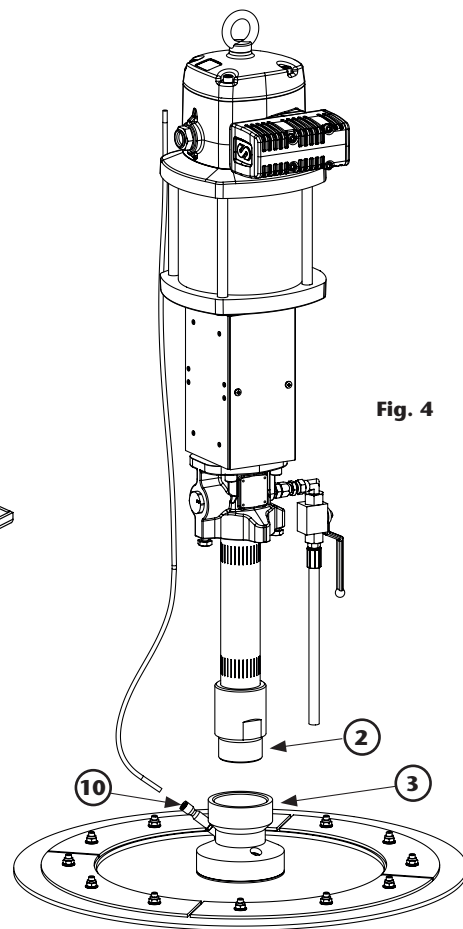
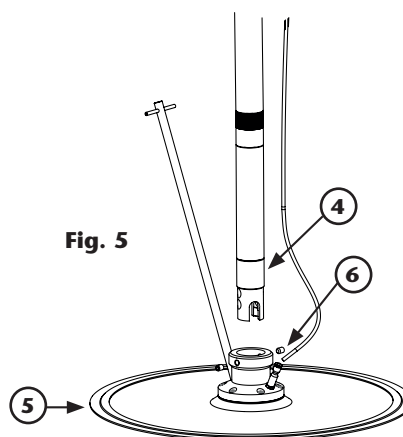
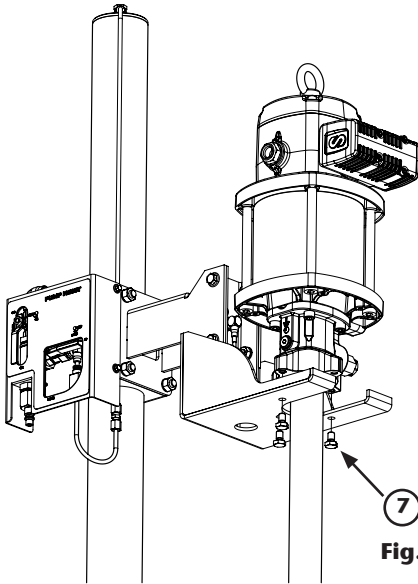
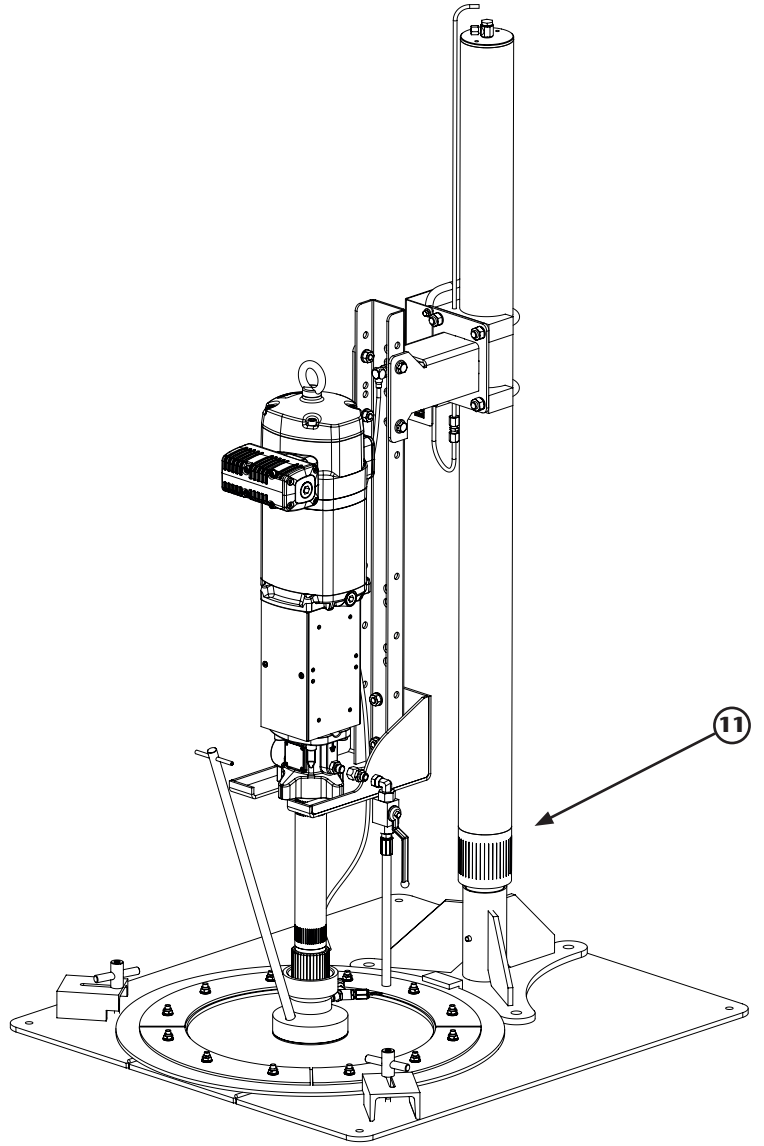

Fig. 4
Fig. 5
Fig. 7
Fig. 9
2. If the pump includes the follower plate (754205) (fig. 4). Apply PTFE tape on inlet pump thread and screw into follower plate. If the pump includes the follower plate (841414) (fig. 5). Fix the pump (4) to follower plate (5) with grub screw (6).
4. To other models fix the pump on the mounting plate with three hex bolts (7) (fig. 7). Screw the connector (8) into airmotor inlet and connect the 12 mm tube (9). For model with follower plate, connect the 6 mm tube to non-return valve (10) (fig. 4). Only for pumps (542010, 542011, 543010, 543011, 544010) fit the male/female swivel (11) (fig. 9).